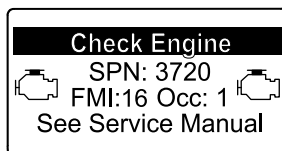

Figure 55
- Engine warning SPN 3720, FMI 16 (Figure 55)